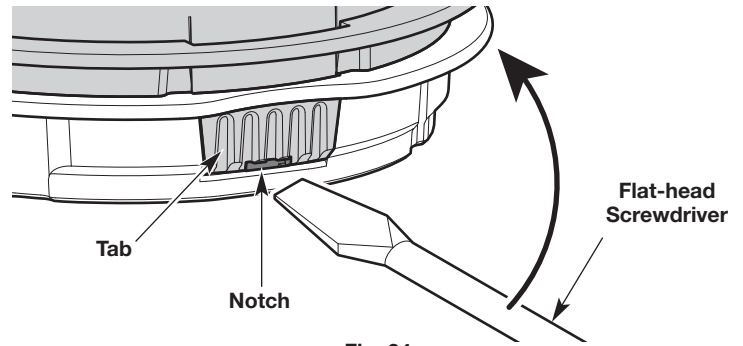

Fig. 24
- a. Insert a flat-head screwdriver into the notch on the tab (Fig. 24).
- b. Gently tilt the screwdriver up and hold it in place (Fig. 24).